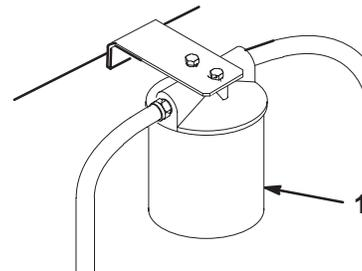

Figure 52
- Place drain pan under filter, remove the old filter and wipe the filter adapter gasket surface clean (Fig. 52).